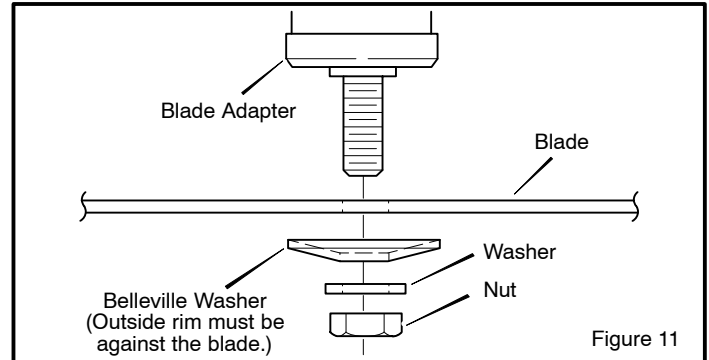

Figure 11
8. Fasten the **blade** with the original washers and **nut**. Make sure the outside rim of the **Belleville washer** is against the **blade** (Figure 11).